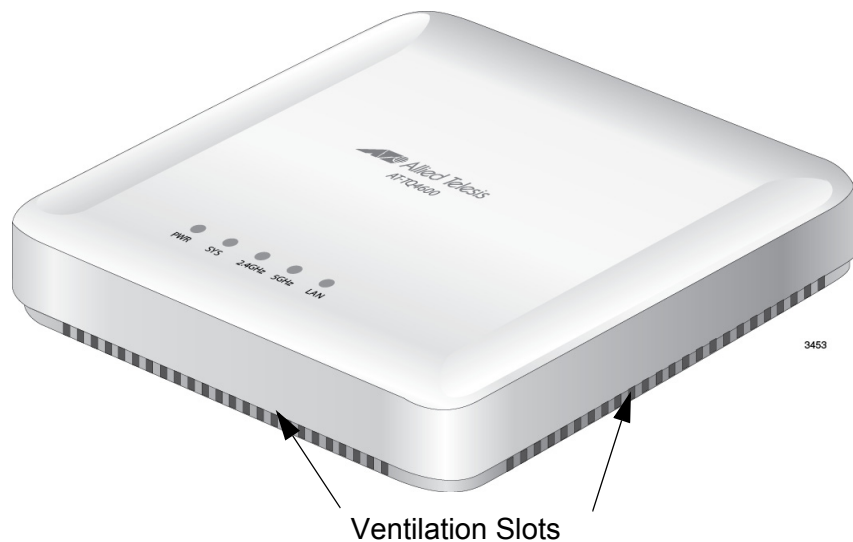

Figure 8. Ventilation Slots
- The selected location must not block the ventilation slots around the base of the unit. Refer to Figure 8.